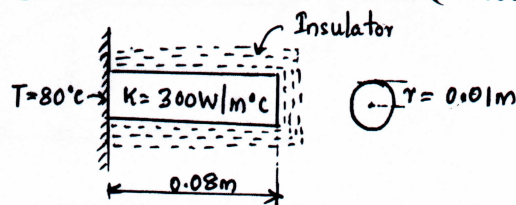

Fig Q9(b)
- b. Determine the temperature distribution in a 1D fin with physical properties given in Fig Q9(b). There is a uniform generation of heat inside the wall $Q = 400\text{ W/m}^3$.